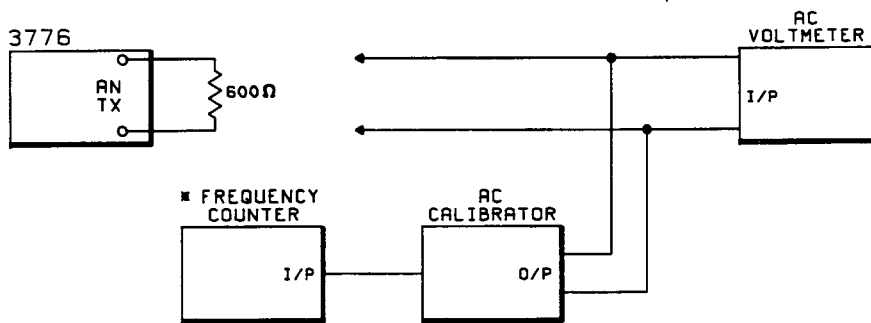

Figure 4-19 Analog Transmitter Flatness Test Set-up
1. Connect the equipment as shown in Figure 4-19.